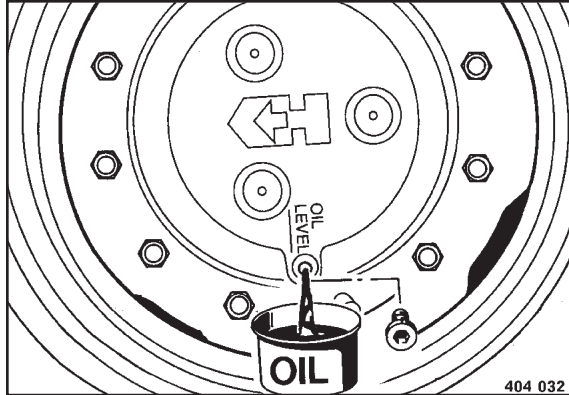

Fig. 131
- Move the drive wheel until the plug (Fig. 131) is in lowest position.